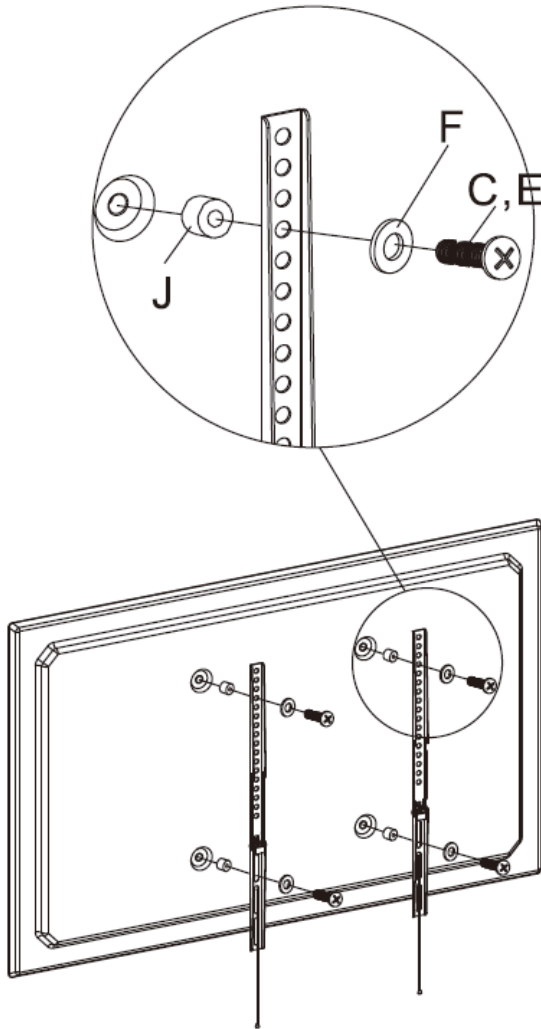

Fig 1b
It will require the use of a spacer. For this display, install a spacer (J) between display and the bracket. As shown in Fig 1b.